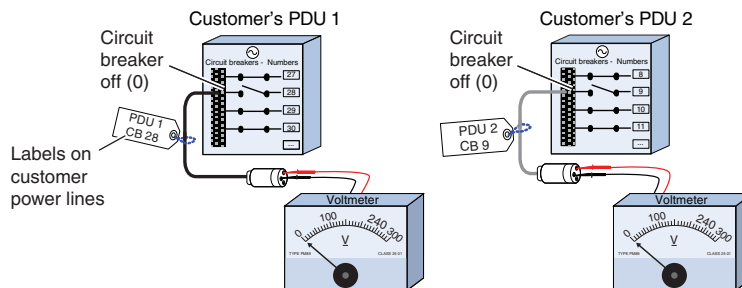

Figure 13 Circuit breakers OFF — No AC power
2. Access to customer-supplied power cables labels (beneath raised floor or overhead) and make sure they are properly labeled as shown in Figure 13 on page 49 and described in “Procedure A-2: EMC Customer Engineer.”